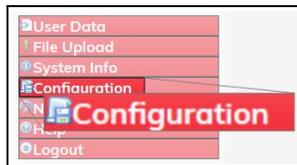

Figure 133: Configuration link
4. On the **Menu** list, click the **Configuration** link. Figure 133